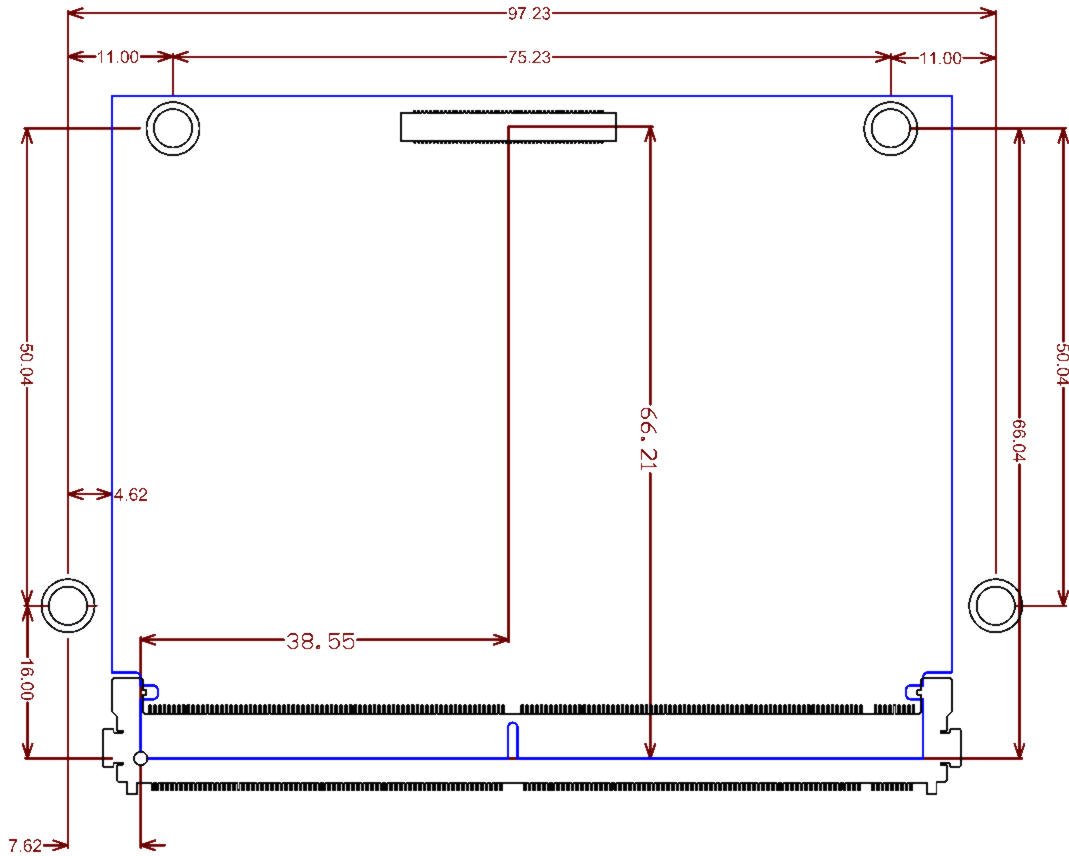

Figure 4 MitySOM-AM57F Carrier Card Outline with heat spreader mounting holes.
The mechanical outline of the MitySOM-AM57F is illustrated in Figure 4, as shown below.
If a heat spreader/sink solution is required Critical Link recommends placing two additional mounting holes near the MXM connector as shown in Figure 4. In the figure, the dimensions are referenced from the left alignment pin position of the MXM connector, MM70-314-310B1-2-R300. The center of the mating connector for the 100 pin Hirose interface J3, DF40HC(3.0)-100DS-0.4V(58) is also shown.